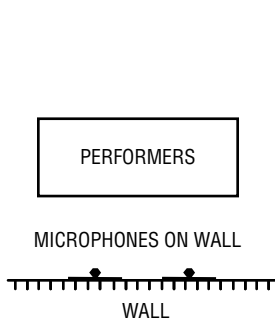

Fig. 6 Stereo #1
- Mount two Sound Grabbers head high on a wall or on the floor and about 3 to 10 feet apart, facing the performers. The mics should be 5 to 15 feet from the performers (see Figs. 6 and 7).